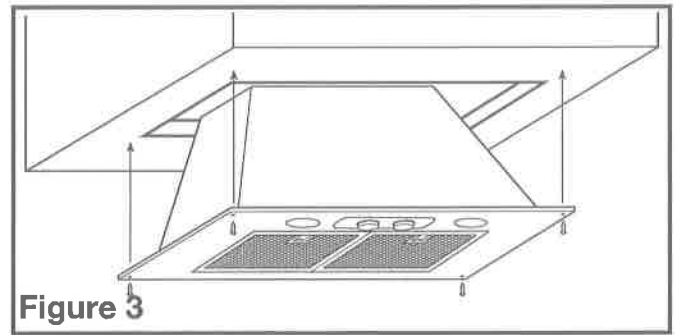

Figure 3
2. Insert the power unit into the hole and secure to liner using the screws provided with the Liner (Figure 3).